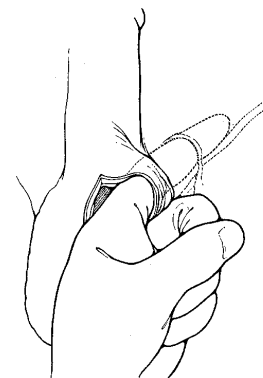

Figure 4-15a. Create Defect
1. Create a defect in transversalis fascia through the external inguinal ring (**Figure 4-15a**). This defect provides access to the prevesical space. You may find access to the inguinal ring and pre-vesicle space easier using the baby deaver provided in the SKW Retractor Kit. The deaver is placed in the inguinal ring and pulled toward the head, revealing the inguinal ring. Once the pocket is created in the prevesical space, use your finger to place the reservoir into the space.